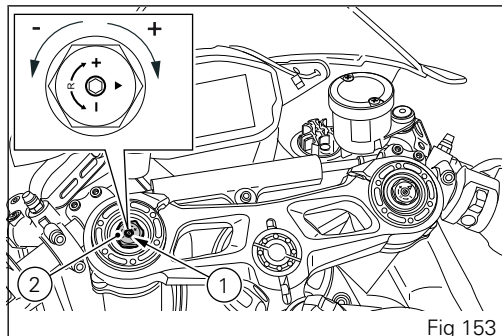

Fig 153
- 1) to adjust the rebound damping (1, Fig 153);
- 2) to adjust the preload of the inner springs (2, Fig 153);
Turn the adjusting screws (1 and 3) to adjust the damping. The stiffest damping setting is obtained with the adjuster turned fully clockwise to the 0 position. Starting from this position and by rotating counterclockwise, you can count the turns. To change preload of the spring inside each fork leg, turn the hex. adjuster (2, Fig 153) with a hexagon wrench of 8.87 in (22 mm), starting from the fully open (clockwise) position.